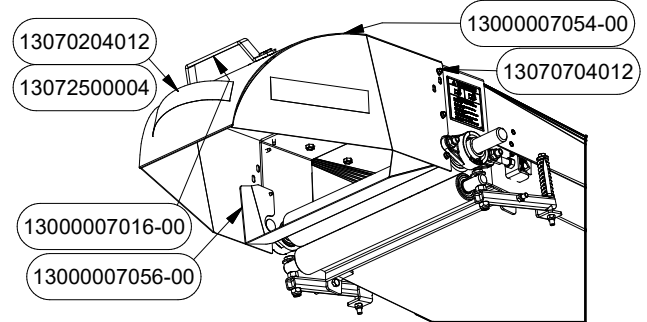

FIGURE 16
16. Locate discharge spout PN# 7054 and deflector PN# 7056 on the discharge end of the jump as shown in Figure 16. Secure Secure with self tapping screws PN# 130704012. Fasten handle PN# 7016 to discharge spout with bolts PN# 13070204012 and nuts PN# 13072500004. Hardware is found in discharge bolt bag PN# 7339. discharge bolt bag and all parts are found in hardware box PN# 7341.